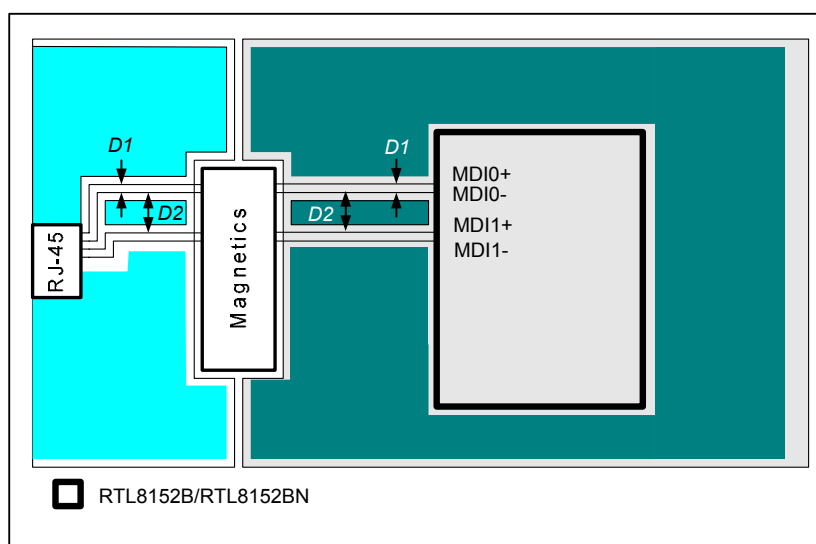

Figure 2. MDI Signal
- The two traces of each pair should be placed close to each other (D1) as they are differential pair signals to each other and provide a strong cancelling effect on noise. The width of D1 should be calculated to have 100ohm impedance (Figure 2). MDI impedance is 50ohm common mode, 100ohm differential mode
- There should be more than 30 mils spacing between different differential pairs to minimize cross-talk coupled from other pairs (D2 in Figure 2). In addition, Ground Plane shielding can be used to separate all two-signal pairs. However, a good layout should avoid the following situations: